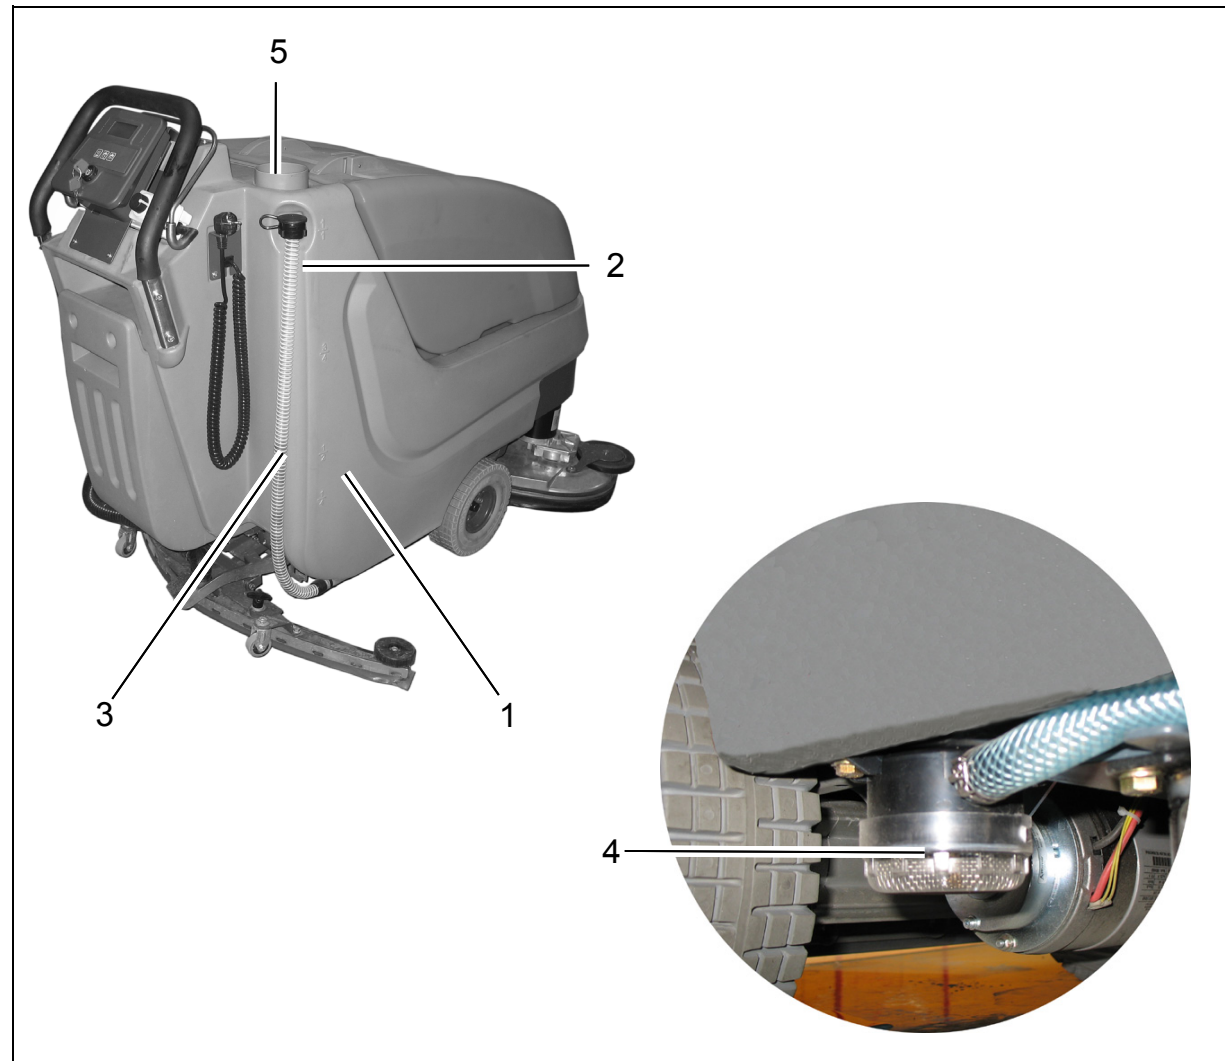

Fig.8
Fill solution tank (Fig. 8/1) before work or as required. Park vehicle on level ground. Open tank lid (Fig. 8/5) and fill tank up to the maximum (1/1 marker) (Fig. 8/2).
Alternatively, filling of the machine via quick coupling (Fig. 8/6) is available. Before doing so, connect the filling hose of the dosage unit and the quick coupling. The floater valve automatically closes after the maximum filling level has been attained.
Park vehicle such that the fill level hose (Fig. 8/3) is located above the drain aperture in the floor. Take fill level hose from holder and remove lid.
Check solution filter (Fig. 8/4) at weekly intervals and clean or replace if required.
1. Empty solution tank (Fig. 8/1), siehe Abschnitt 5.5.2.